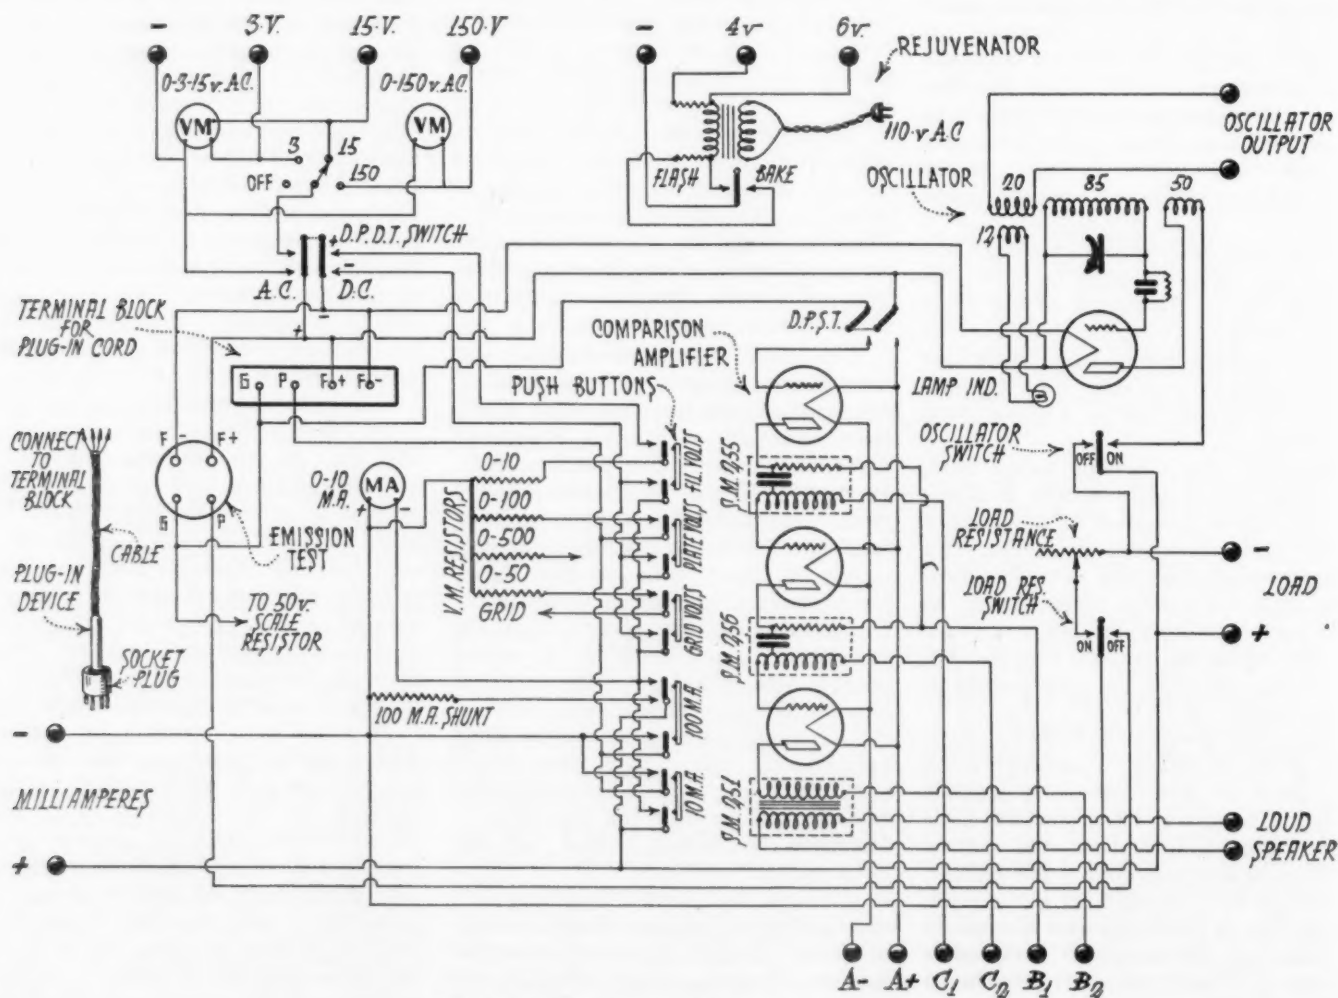

Fig. 2. Circuit Diagram for Complete Test Set
The internal connections of the d.c. test unit are shown in Fig. 2, but no attempt has been made to preserve strict accuracy here. For example, the external binding posts for d.c. voltmeter connections have been omitted, as they simply parallel the internal voltmeter circuit. The 0-500 volts resistance has been purposely left incomplete, so as not to complicate the wiring. This connection is identical with the 0-100 volt resistor.
Additional apparatus in the test set includes (1) a tube rejuvenator, (2) an oscillator for accurate circuit adjustments, and which may be used as the driver for a laboratory beat frequency oscillator if desired, and (3) a high quality comparison amplifier, the uses for which are manifold. A load resistor has also been arranged in series with the milliammeter and provided with a cut-out switch, so that load conditions may be simulated for checking the output voltages of battery eliminators. This auxiliary equipment and the uses therefor will be described in detail, except for the rejuvenator, whose purpose and use should be obvious. The wiring arrangements are shown in Fig. 2.